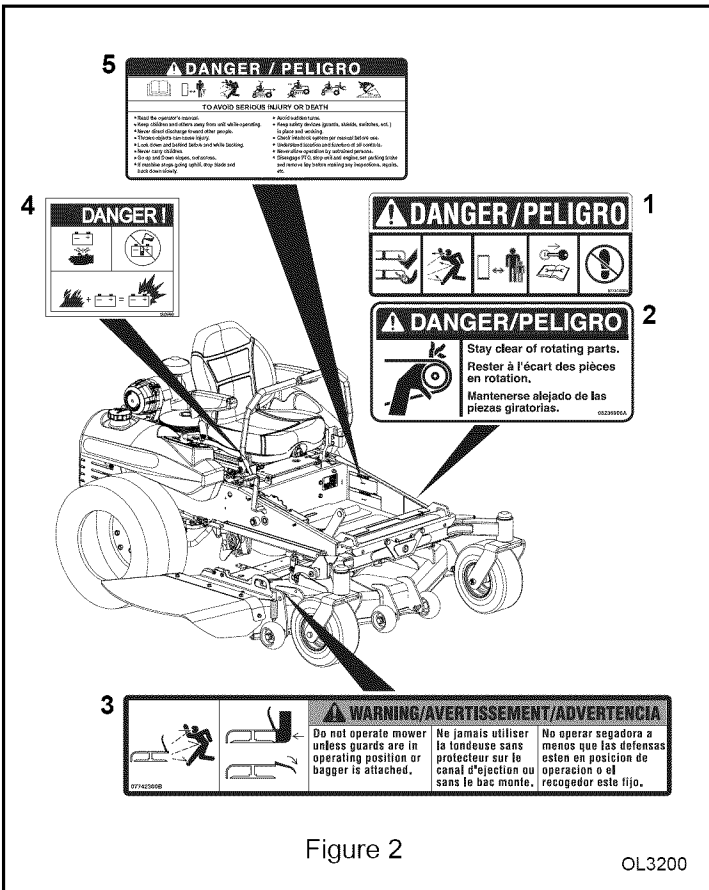

Figure 2
ALWAYS replace missing or damaged Safety Decals. Refer to Figure 2 for Safety Decal locations.
**WARNING:** DO NOT remove or obscure DANGER, WARNING, CAUTION or Instruction Decals. Replace any decals that are not readable or are missing. Replacement decals are available from your dealer. The location of these Safety Decals is illustrated in figure 2.